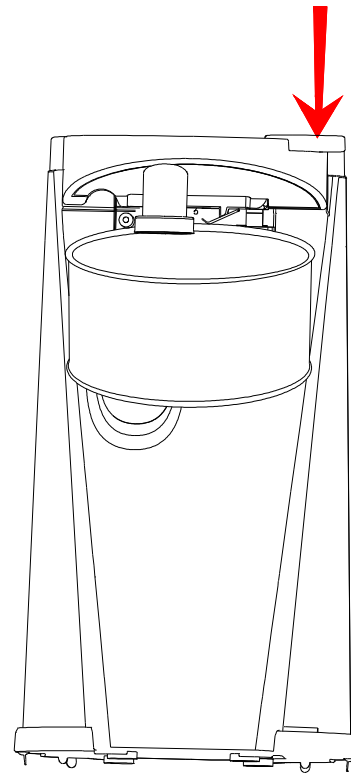

Fig. 3
4. Press down the right side of blade bracket, making sure the blade is inside the rim of the can (see Fig. 3). The drive wheel will start rotating the can and the blade will cut the can open. The can will be held in place automatically.